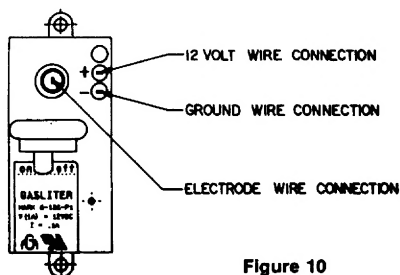

Figure 10
B. Make 12 volt D.C. connections to re-ignitor as illustrated in Figure 10.